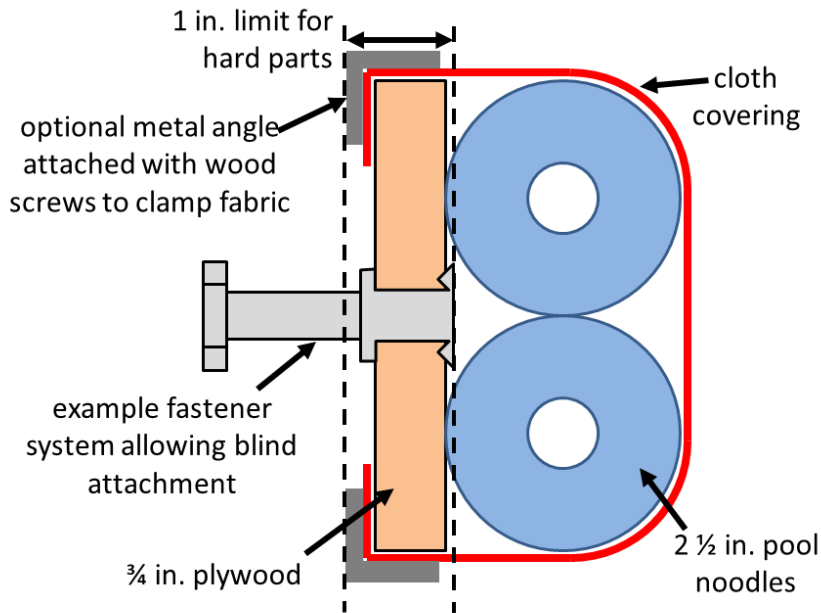
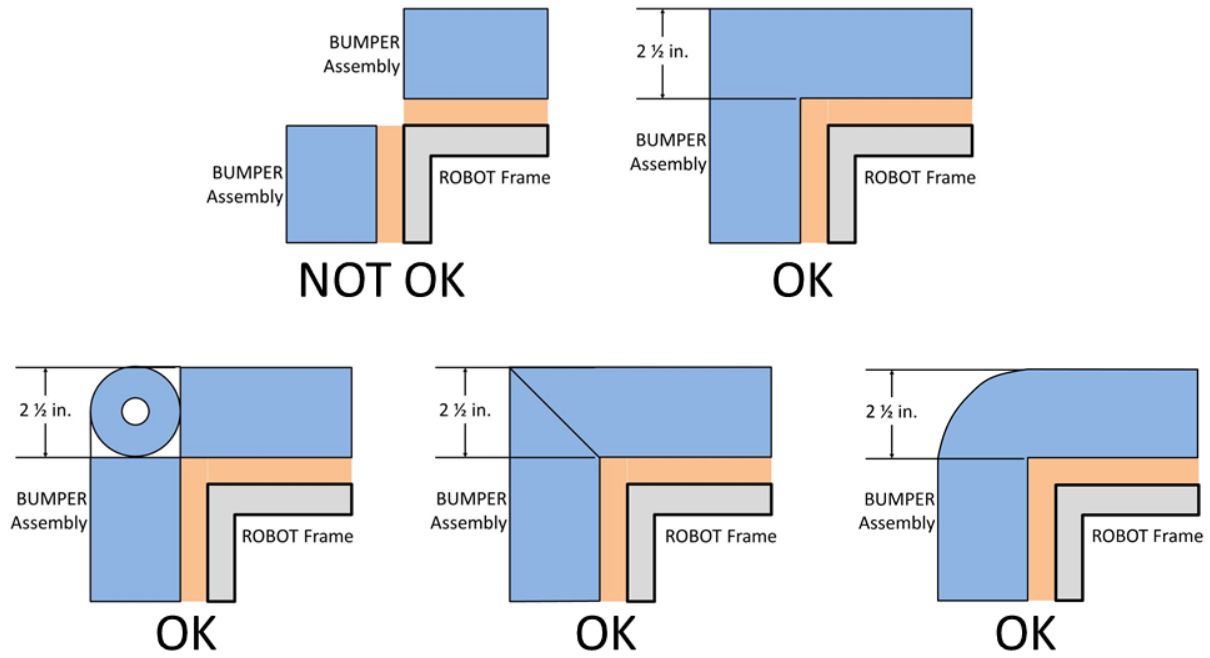

Figure 10-6 BUMPER Vertical Cross Section
Figure 10-7 Soft Parts of BUMPER Corners
- C. use a stacked pair of approximately 2½ in. (nominal) round, petal, or hex “pool noodles” (solid or hollow) as the BUMPER cushion material (see Figure 10-6). All pool noodles used in a BUMPER set (e.g. Red set of BUMPERS) may not be modified (with the exception of cutting to length or beveling ends) or deformed and must be the same diameter, cross-section, and density (e.g. all round hollow or all hex solid). Cushion material may extend up to 2½ in. (~63 mm) beyond the end of the plywood (see Figure 10-7). To assist in applying the fabric covering, soft fasteners may be used to attach the pool noodles to the wood backing, so long as the cross section in Figure 10-6 is not significantly altered (e.g. tape compressing the pool noodles).
- R31. (Figure 10-6, change is “optional aluminum metal angle attached with wood screws to clamp fabric” in callout)
- R32. (Figure 10-7, modified to better represent that the bottom right example is a noodle wrapped around the corner.)